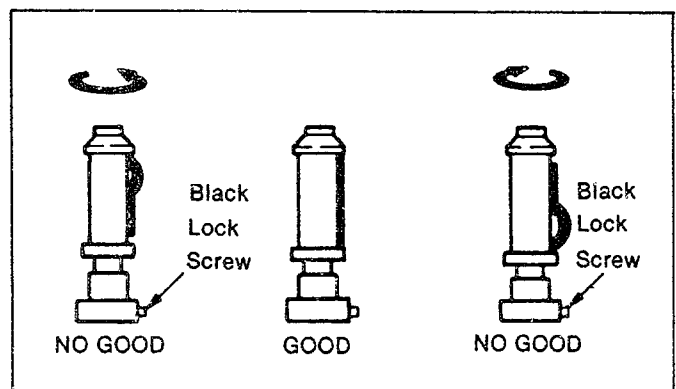

Fig. T4
- (1) Playback a cassette tape and confirm that the tape travels Without curling at upper and lower guides on posts T4, T2, S4 and S2. Fig. T4.